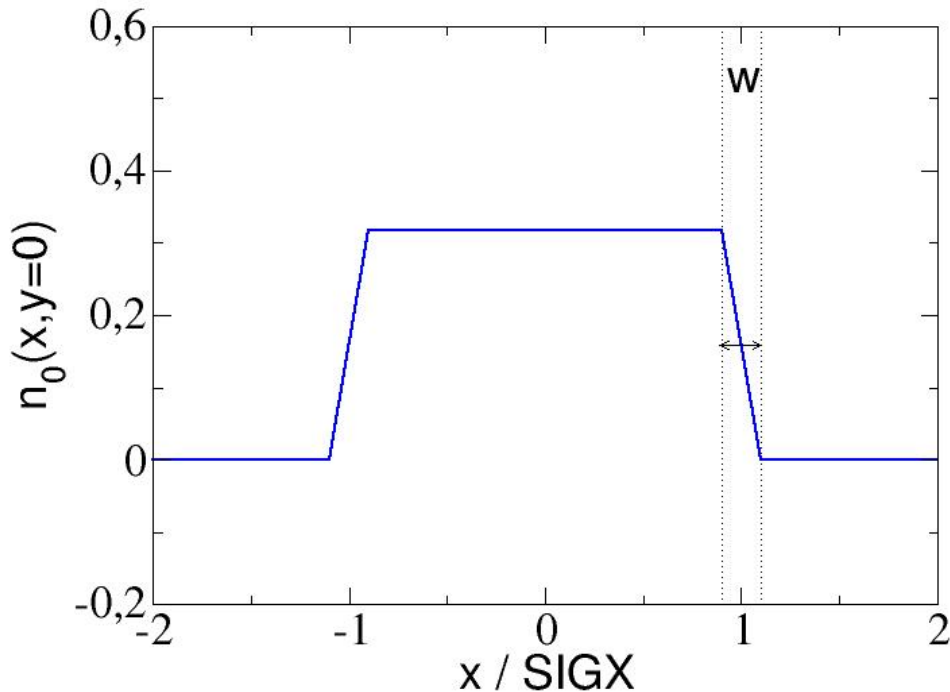

Figure 10.2: Trapezoidal shape of radial density for beam-beam lens.
- **BBSHAPE=2**: trapezoidal shape (see fig.10.2). **SIGX**, **SIGY** are the half widths of density profile, *i.e.* distance from the centre to half edge region with linear decrease of density in horizontal and vertical directions. Only circular opposite beam is possible, *i.e.* in the calculations $SIGX' = SIGY' = (SIGX + SIGY) / 2$ is used, if **SIGX** and **SIGY** have different values. **WIDTH** denotes the full width of the edge region in units of **SIGX** (or **SIGX'** and **SIGY'**, respectively, if **SIGX** and **SIGY** are not equal), *i.e.* if $WIDTH = 0.01$ and $SIGX = 5\text{mm}$, the edge region has a full width of 0.05 mm. Condition: $WIDTH < 2.0$.